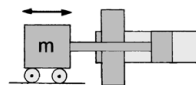

Fig. 3  $\eta = 1$  or more
- 3) Using a guide type for horizontal operation: load ratio  $\eta = 1$  (Fig. 3)